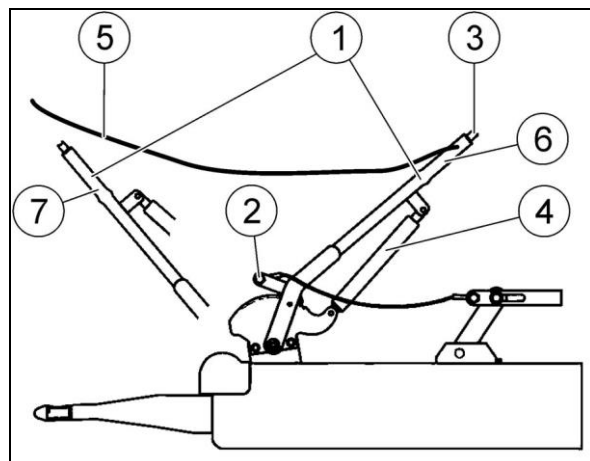

Fig. 42
1. Strongly pull the contact breaking cable (Fig. 42/5) from the tractor before leaving the tractor.
- The hand brake lever (Fig. 42/1) swivels forward past the dead centre to position (Fig. 42/7) and the parking brake is applied.